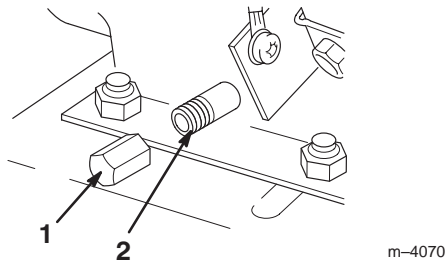

Figure 28
5. Clean the area around the oil drain plug (Fig. 28).
6. Slide an oil drain pan below the drain extension and remove the oil drain plug (Fig. 28).